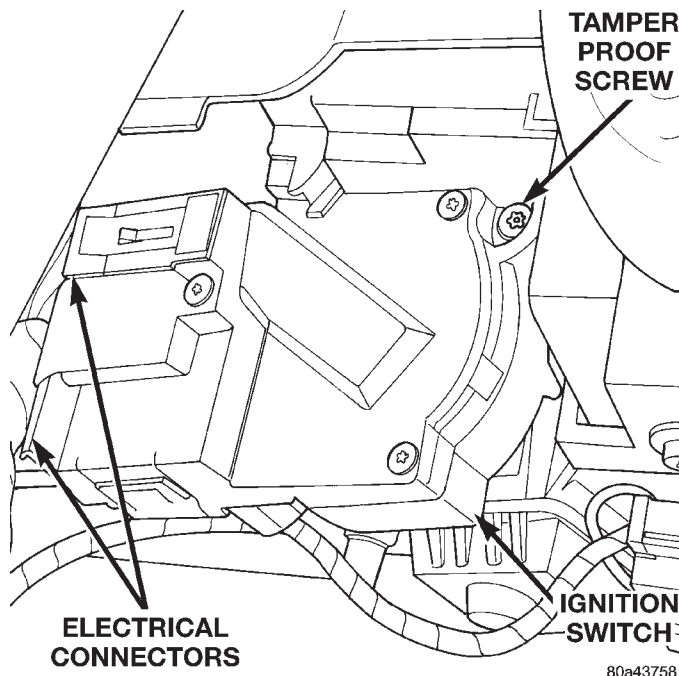

Fig. 43 Ignition Switch Removal/Installation
(3) Remove ignition switch mounting screw (Fig. 43). Use tamper proof torx bit (Snap-On® SDMTR10 or equivalent) to remove the screw.
(5) Disconnect two electrical connectors at rear of ignition switch (Fig. 43).